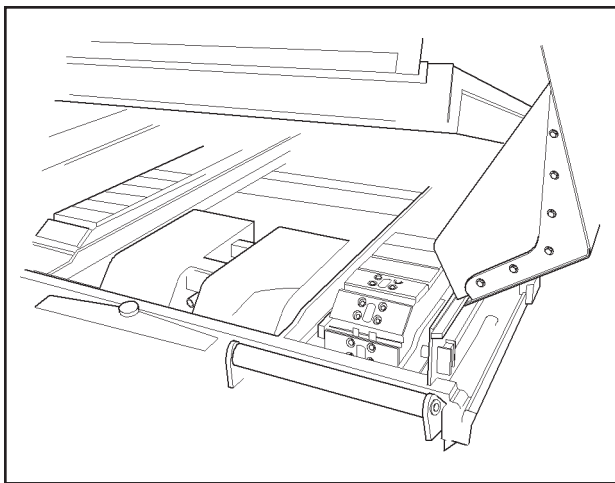

FIGURE 4-5. HOPPER RAISED
3. Raise conveyor by pushing the CONVEYOR RAISE/LOWER handle upward to the RAISE position and hold until conveyor is fully raised (see Figure 4-5).